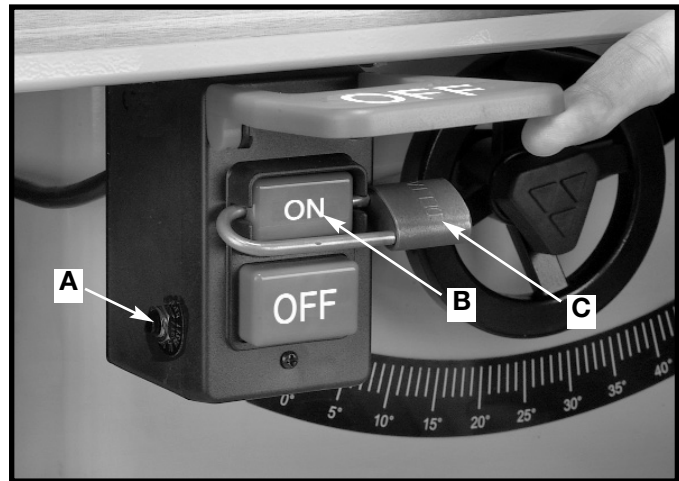
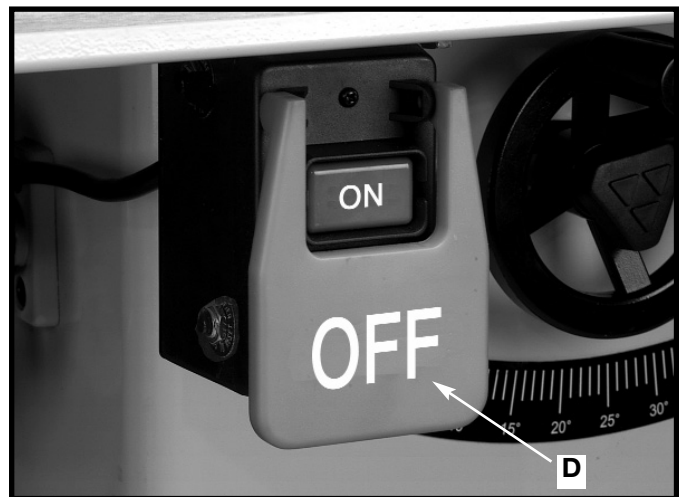

Fig. 31
Fig. 32
The on/off switch is located underneath the switch shield (A) Fig. 32. To turn the saw “ON”, press the green button (B) Fig. 31 below the shield. To turn the saw “OFF”, push switch shield (A) Fig. 32.
IMPORTANT: When the tool is not in use, the switch should be locked in the “OFF” position to prevent unauthorized use. Use a padlock (C) Fig. 31 with a 3/16" diameter shackle.
The saw is equipped with a circuit breaker (A) Fig. 31. If the motor shuts off or fails to start due to overloading (cutting stock too fast, using a dull blade, using the saw beyond its capacity, etc.), or low voltage, turn the saw off by pushing the switch shield (D) Fig. 32. Let the motor cool three to five minutes and push the reset button (A) Fig. 31, which will reset the overload device. The motor can then be turned on again in the usual manner.